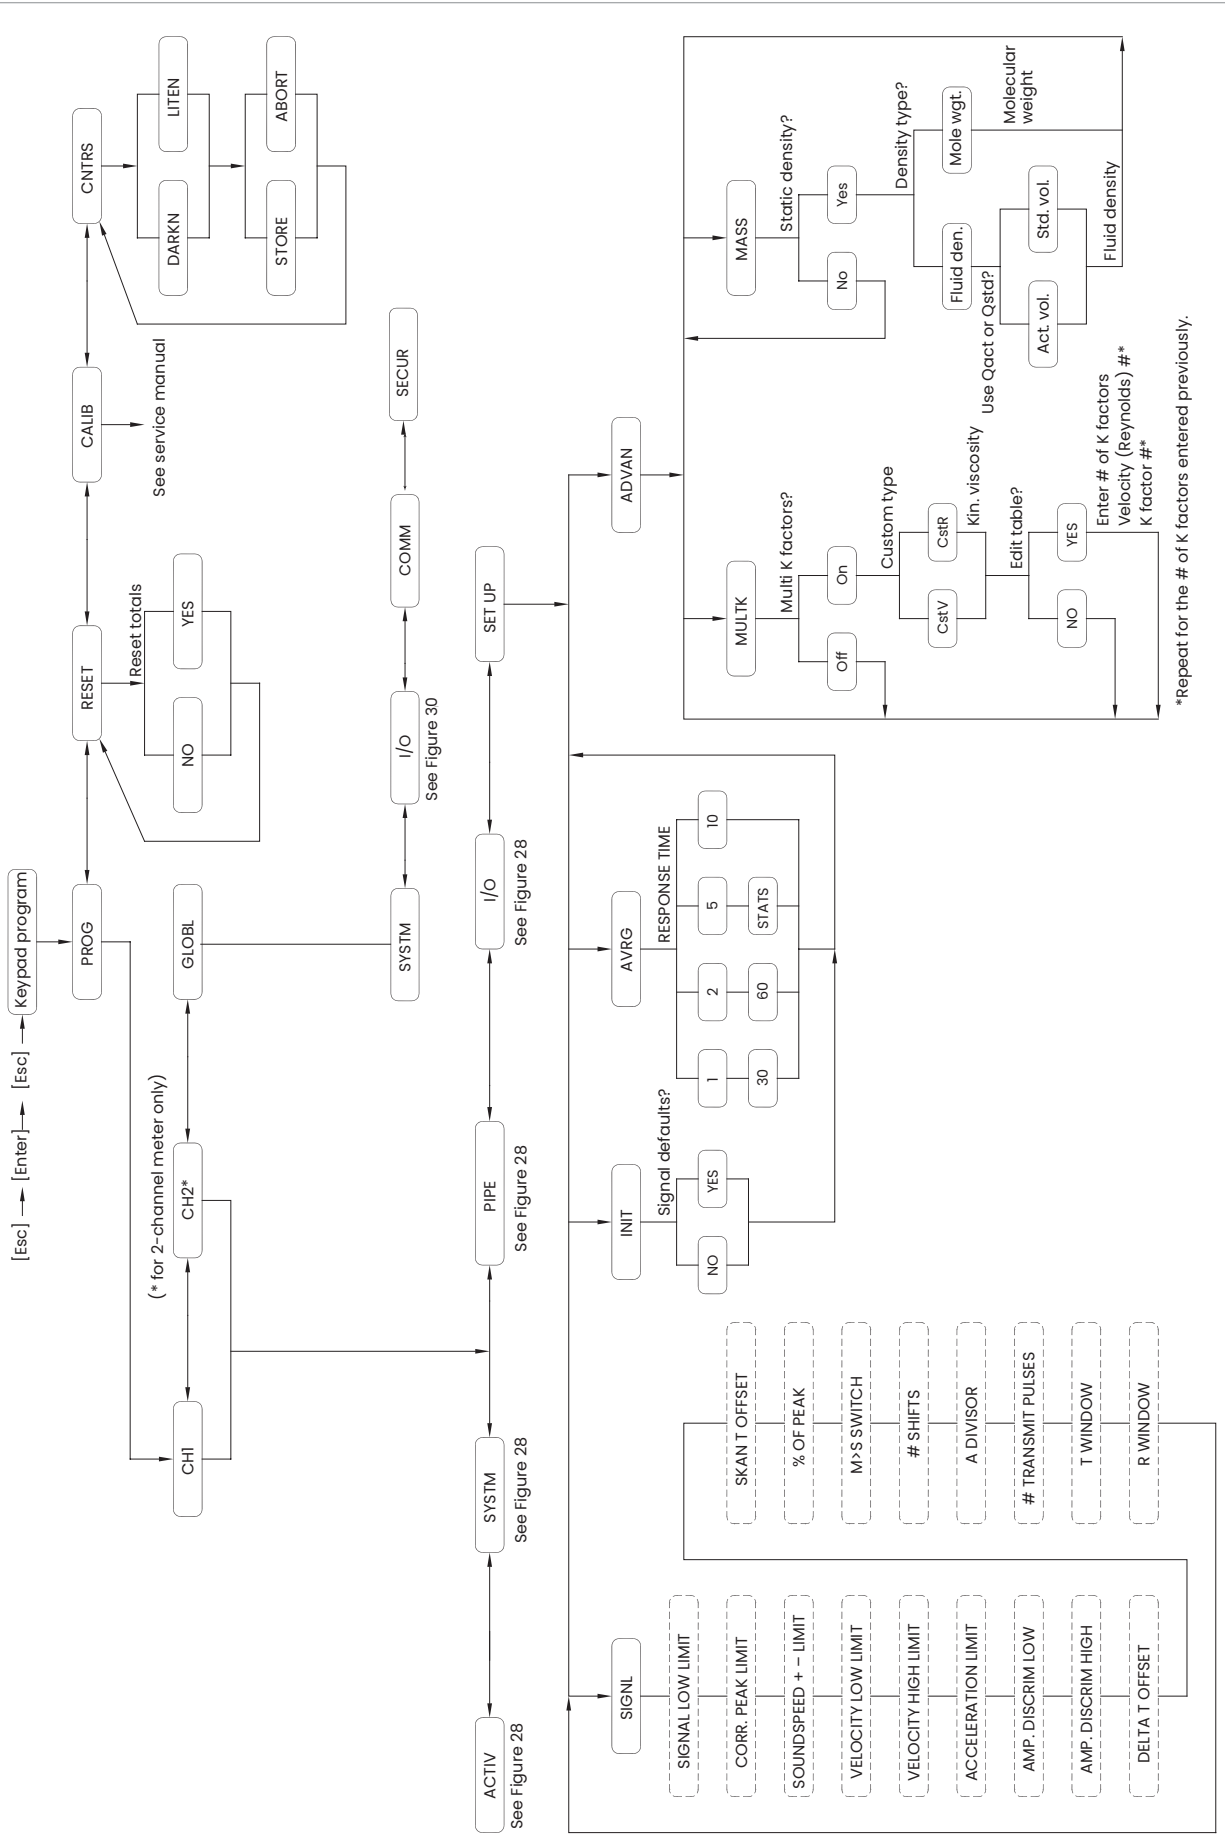

Figure 29: PROG > CHx > SETUP menu
- *Figure 29 on page 41, "PROG > CHx > SETUP Menu"*